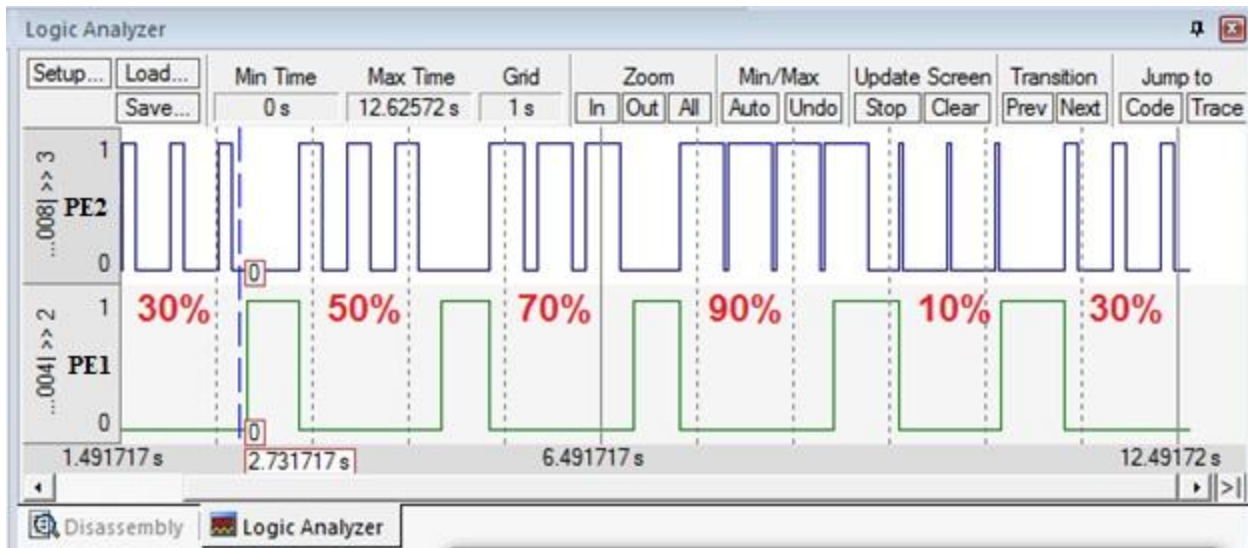

Figure 3.9. Pulse width modulation. Pins here are PE1 and PE2, but your **Change** and **LED** pins will be specified when you enter your two EIDs and run the system.
4. Screenshot of Keil logic analyzer showing your debugging, like Figure 3.9